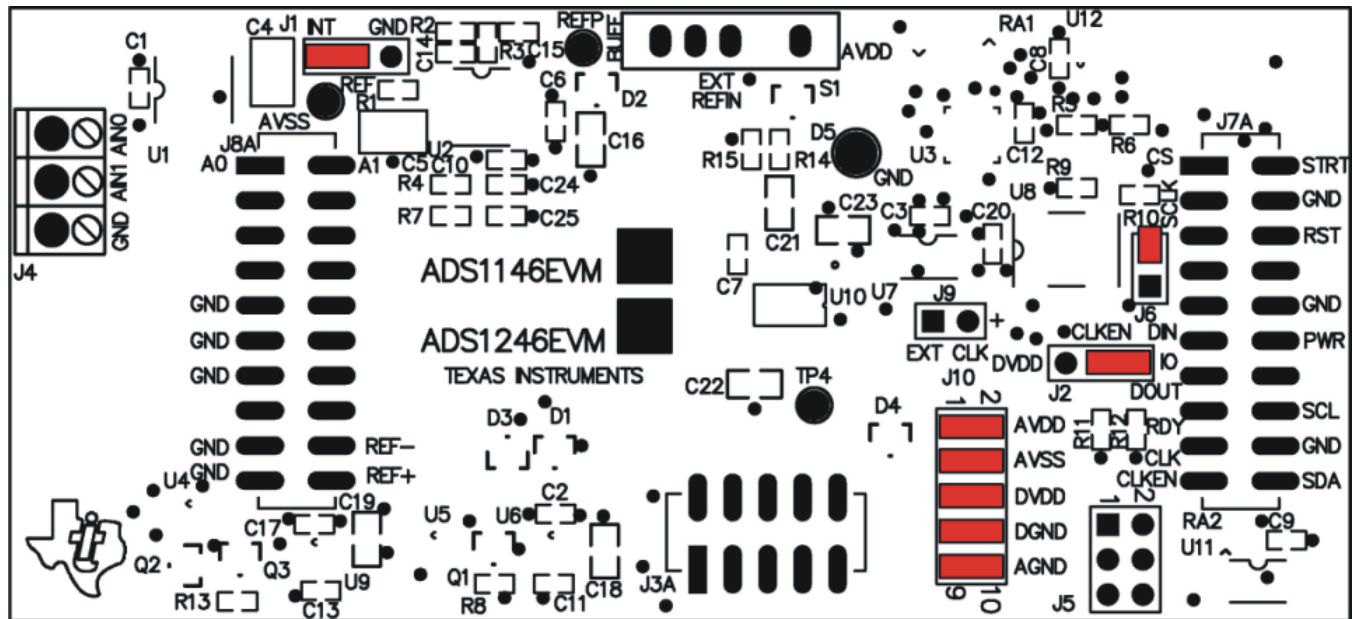

Figure 3. ADS1246EVM Default Jumper Locations
Figure 3 shows the jumpers found on the EVM and the respective factory default conditions for each.
Step 4. Set the jumpers and switches on the ADS1246EVM as shown in Figure 3 (note that these settings are the factory-configured settings for the EVM).